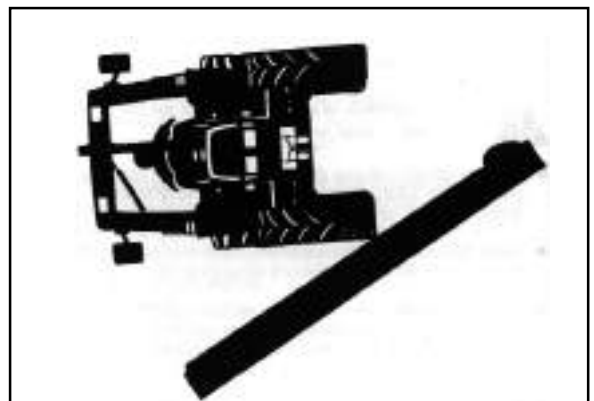

Fig. 12
- Whenever possible, avoid crossing inclined terrains or pronounced slopes. If possible, avoid pot holes, tree trunks or hillocks (Fig. 12).